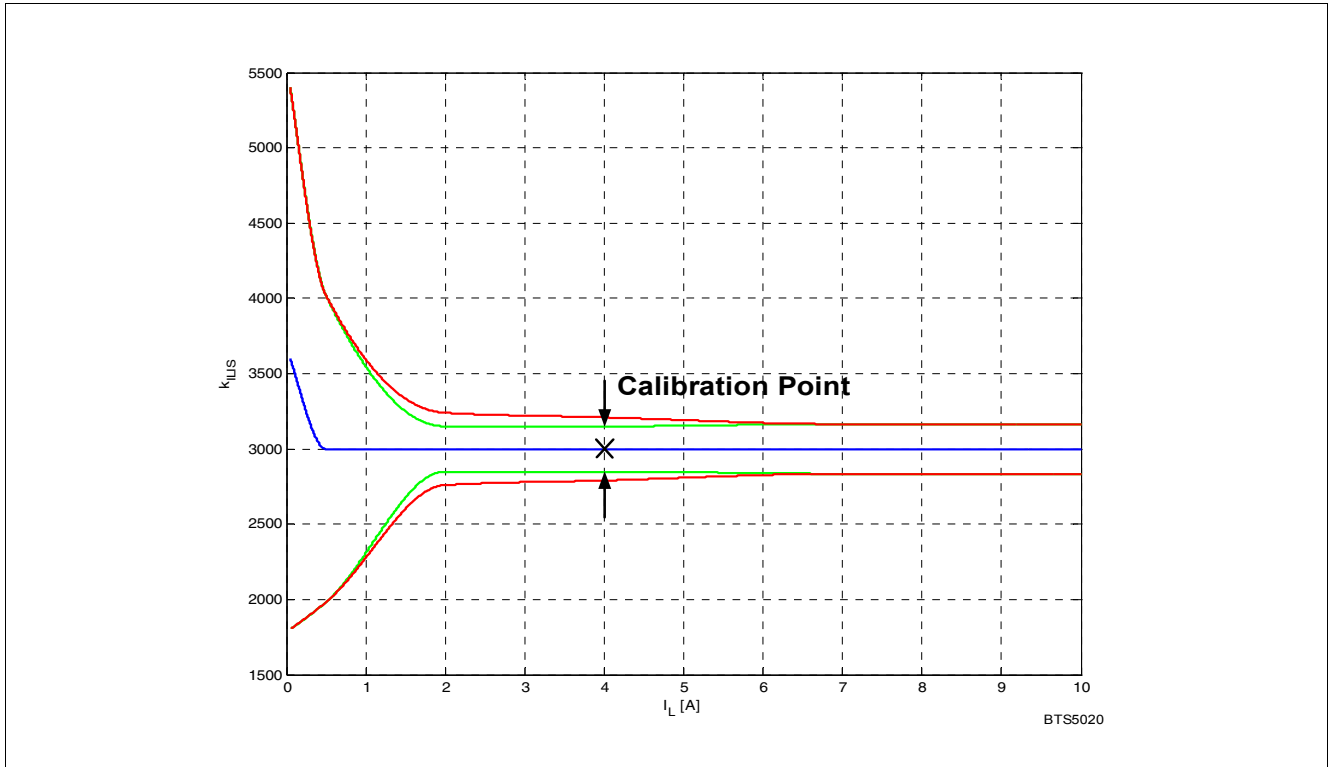

Figure 22 Improved SENSE Accuracy with One Calibration Point
**Figure 21** and **Figure 22** show the current sense as a function of the load current in the power DMOS. Usually, a pull-down resistor  $R_{IS}$  is connected to the IS pin. This resistor has to be higher than  $560 \Omega$  to limit the power losses in the sense circuitry. A typical value is  $1.2 \text{ k}\Omega$ . The blue curve represents the ideal SENSE, assuming an ideal  $k_{ILIS}$  factor value. The red curves show the accuracy the device provides across full temperature range, at a defined current.
In some applications a better accuracy is required around half the nominal current  $I_{L(NOM)}$ . To achieve this accuracy requirement, a calibration on the application is possible. To avoid multiple calibration points at different load and temperature conditions, the BTS5020-2EKA allows limited derating of the  $k_{ILIS}$  value, at nominal load current ( $I_{L3}$ ;  $T_j = +25 \text{ }^\circ\text{C}$ ). This derating is described by the parameter  $\Delta k_{ILIS}$ . **Figure 22** shows the behavior of the SENSE current, assuming one calibration point at nominal load current and  $+25 \text{ }^\circ\text{C}$ .